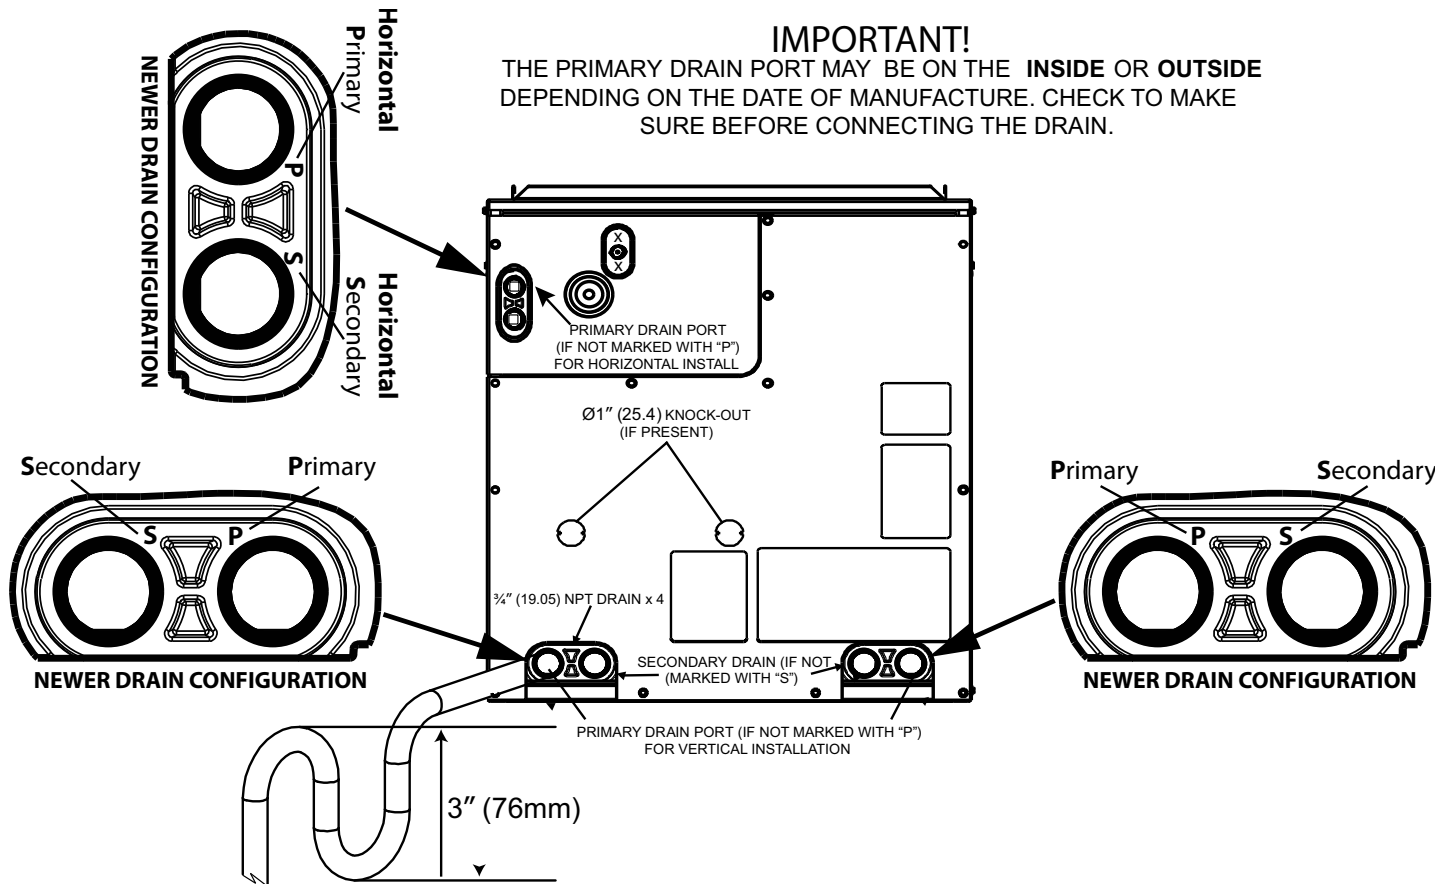

Fig. 14 – Condensate Trap and Drains
IMPORTANT: Depending on the date of manufacture, the unit's primary and secondary drains may be reversed from what you are accustomed to. Please check carefully before connecting the drain. Refer to Fig. 14.
- Make trap at least 3 inches (76 mm) deep and no higher than the bottom of unit condensate drain opening (Fig. 14).